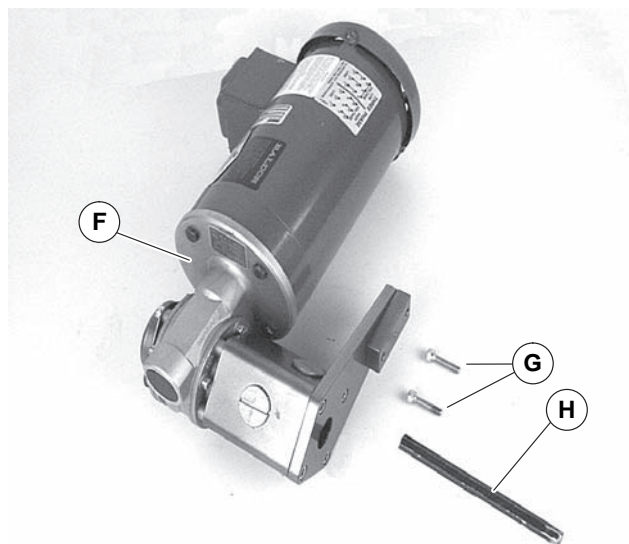

Figure 2
1. Typical components (Figure 2)
<p>Flat belt mounting package shown above (Figure 2), cleated belt mounting package similar.</p>